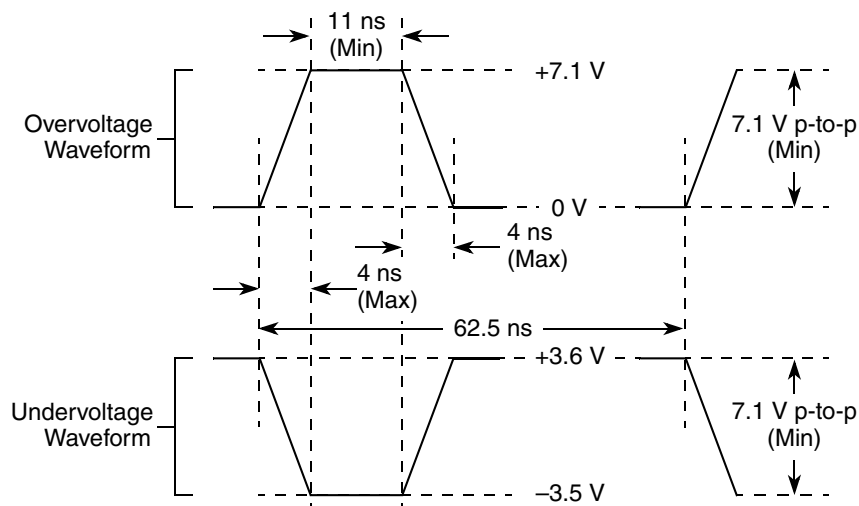

Figure 3. Maximum AC Waveforms on PCI Interface for 3.3-V Signaling
- 6  $OV_{IN}$  on the PCI interface can overshoot/undershoot according to the PCI Electrical Specification for 3.3-V operation, as shown in Figure 3.
Figure 3 shows the undershoot and overshoot voltage of the PCI interface of the MPC8343EA for the 3.3-V signals, respectively.